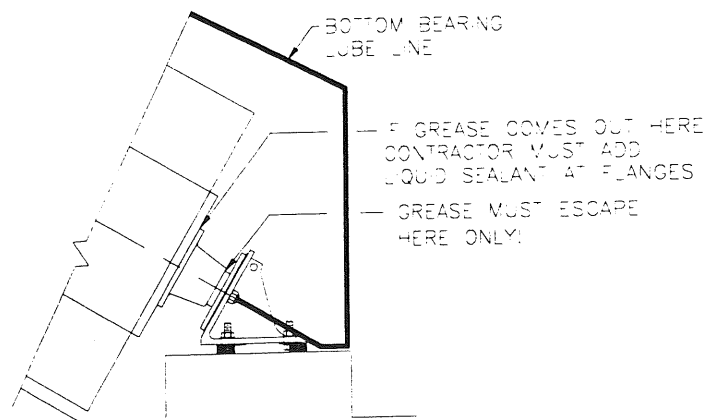

Figure D14
- e. Totally fill the lower bearing. Use a grease gun at the grease fitting at the lubricator to fill the line until grease appears at the lower bearing exit, Figure D14.